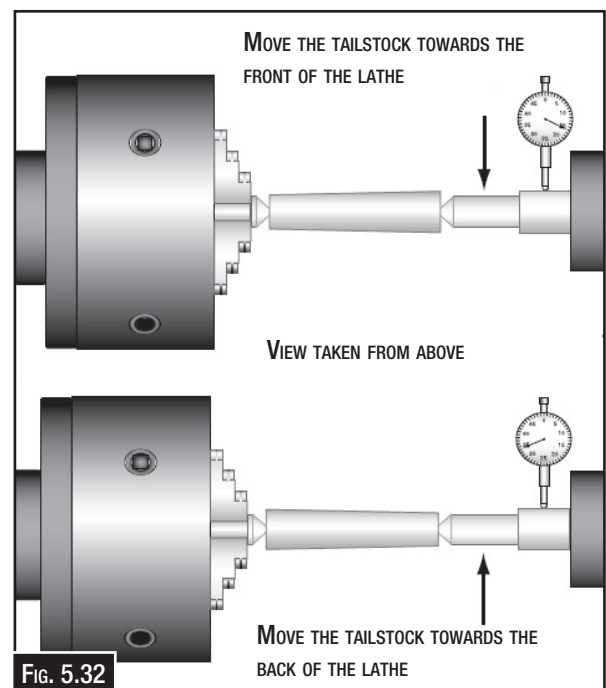

FIG. 5.32
6. Mount a test or dial indicator so that the plunger is on the tailstock quill and set the dial to "0". (Fig. 5.32)